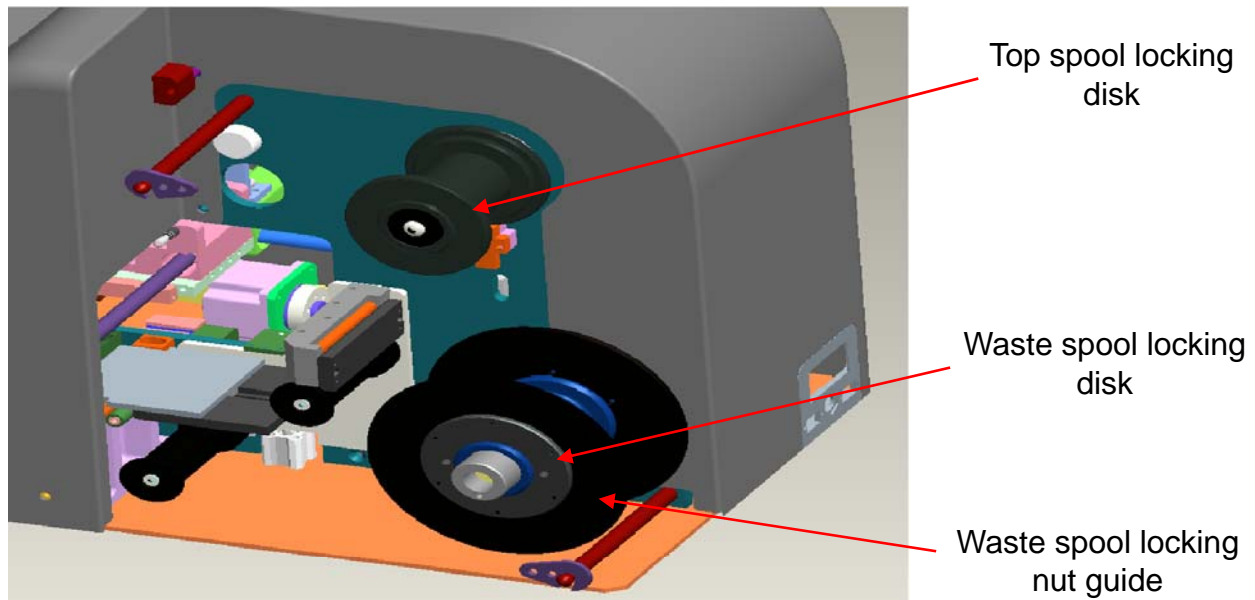

Figure 1: Various spool locking disks
1) Remove the spool locking disks identified in figure 1. The spools have different threads, the top spool has a left handed thread (means that it unscrews in a clockwise direction) and the bottom spool has a right handed thread (meaning it unscrews in an anti-clockwise direction).